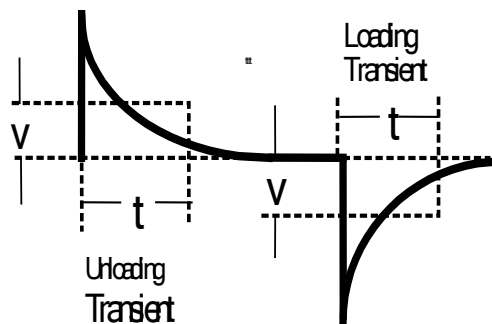

Figure B-2. Transient Waveform
- f. Adjust the oscilloscope for a waveform similar to that in Figure B-2.